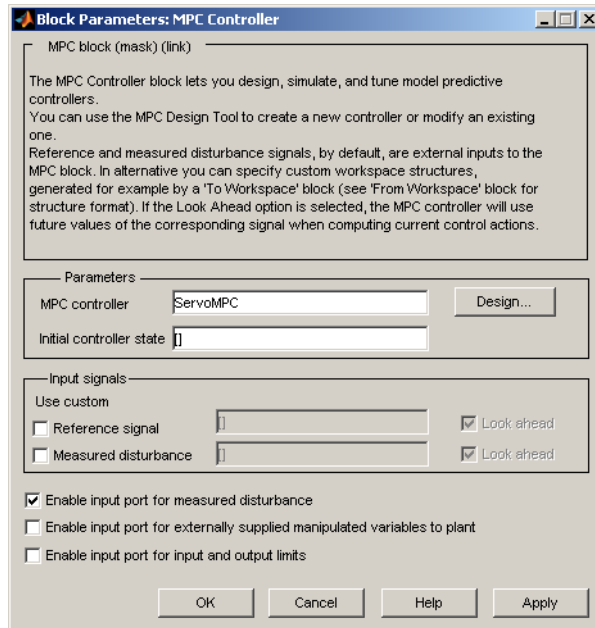

Figure 3-16: Model Predictive Control Toolbox™ Simulink® Block Dialog Box
- MPC Controller is from the MPC Blocks library. Figure 3-16 shows the dialog box obtained by double-clicking this block. You need to supply an MPC object, and `ServoMPC` is being used here. It must be in the workspace before you run a simulation. The **Design** button opens the design tool, which allows